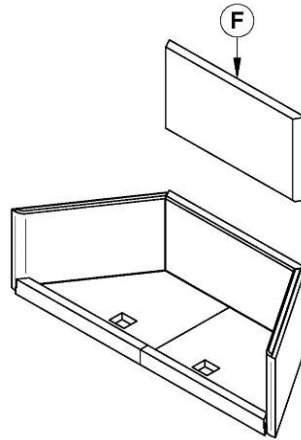

Figure 26 : Upper Back Panels
3. Unscrew the two bolts (**Detail A**) which are located in the lower left corner of the door (see **Figure 26**).